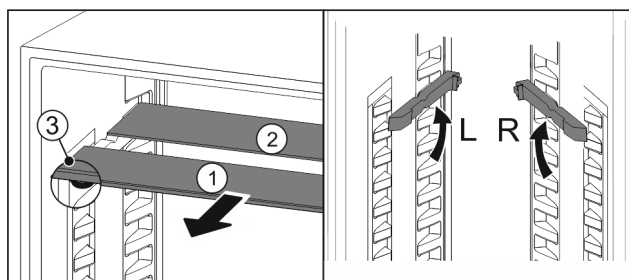

Fig. 101
- ▶ Pull the glass panels out Fig. 101 (1) from the front, one at a time.
- ▷ The glass panel Fig. 101 (1) and trim strip are at the front.
- ▷ The stops Fig. 101 (3) point down.